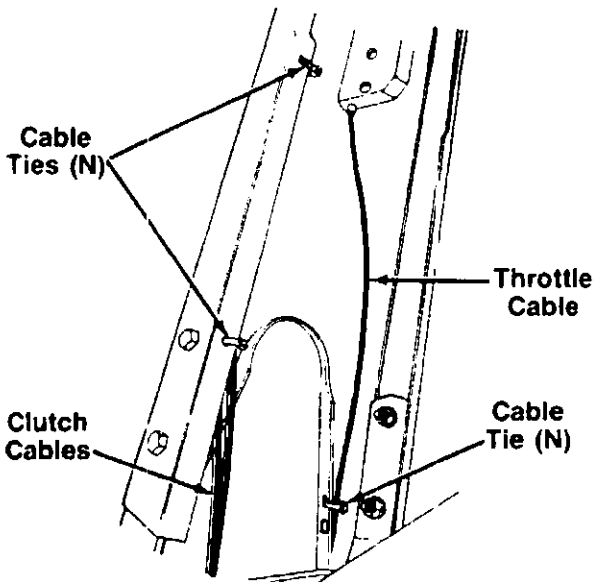

FIGURE 11.
- a. Secure the forward and reverse clutch cables to the holes in back of the handle panel (left hand side) using two cable ties (N) as shown in figure 11. Leave ties fairly loose.
- b. Secure the throttle control cable to one of the holes in the inside of the handle panel (right hand side) as shown in figure 11. Leave tie fairly loose.